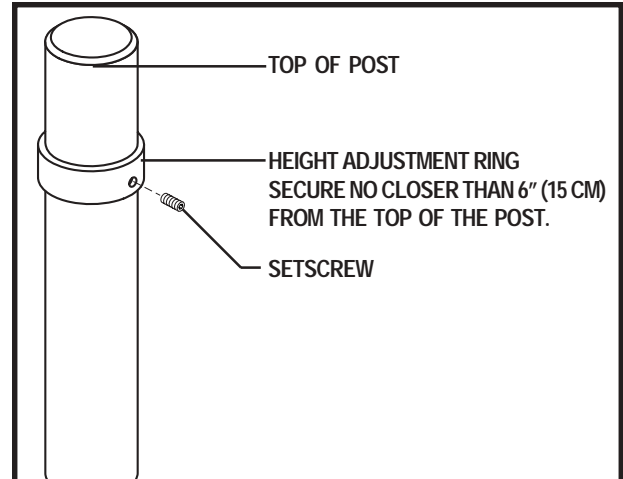

Figure 7. Height Adjustment Ring Position
The placement of the height adjustment ring determines the height of the motor housing. **See figure 7.**
1. Loosen the setscrew on the ring. **See figure 7.**